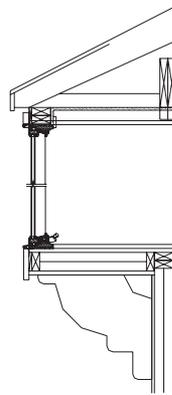

Figure 3
a. Knee brace - supports are required when the wall does not project directly below the window unit (see figure 3).